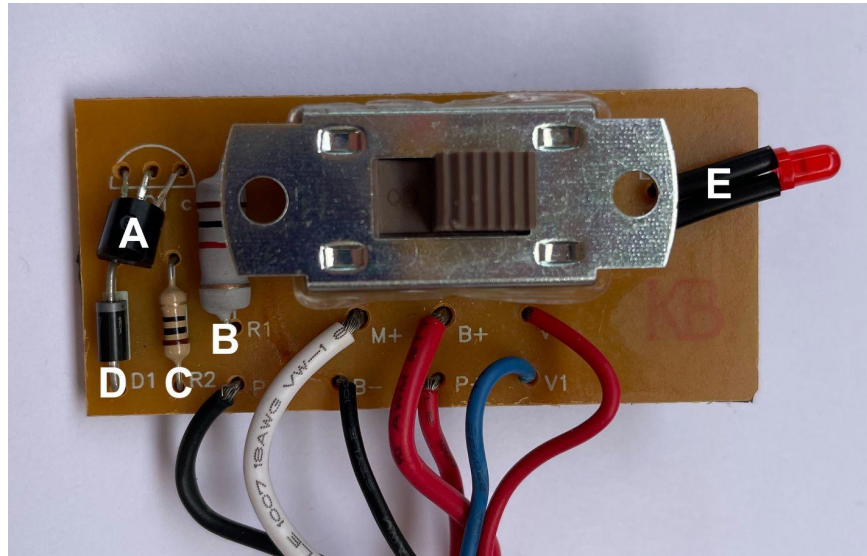

Figure 4: Switch/circuit board has a transistor (A), two resistors (B and C), diode (D) and an LED indicator light (E).
The switch sits on a tiny circuit board (Fig 4). The tiny circuit board has a variety of different components. First, the transistor (Fig 4, A). It essentially acts like a valve. There are three metal legs on the transistor. The current flows through the first leg, goes across the middle, and finally comes out the other leg. The middle leg controls the amount of current that flows between the two legs, when the switch is on or off. Next, are the two resistors (Fig 4, B and C). The function of resistors is to limit the amount of electric current going through the wire to the batteries. The gray resistor (Fig 4, B) limits the amount of current from the power source, so the batteries don't charge too fast when they are completely discharged. Lastly, there is a diode (Fig 4, D). The function of a diode is to let electricity flow in one direction, but not the other; changing Alternating
Current (AC) into Direct Current (DC) to charge the batteries. Finally, there is an indicator light that turns on during charging (Fig 4, E).